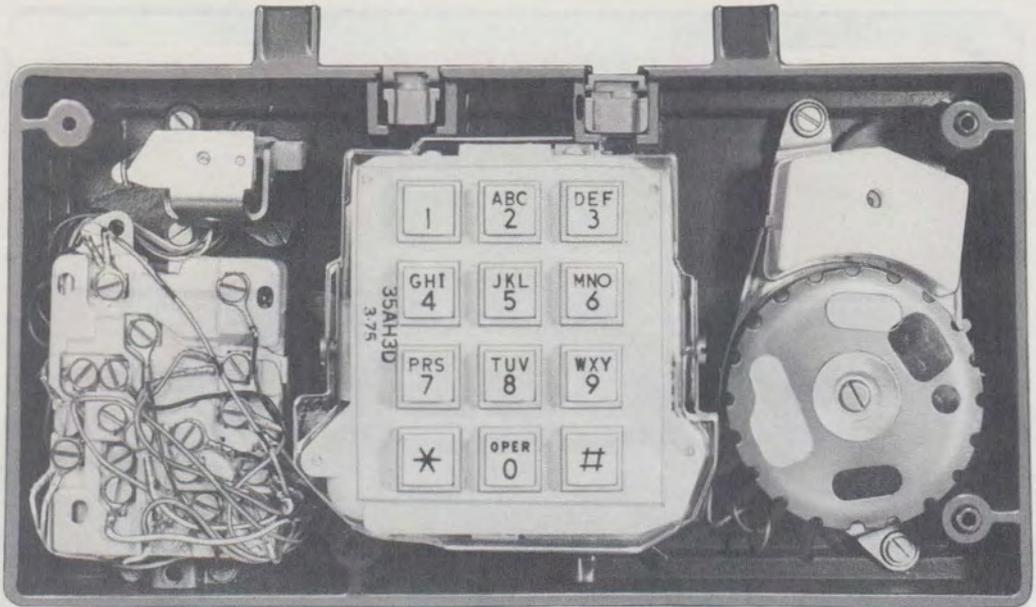

Fig. 7—2930B-Type Telephone Set, Upper Housing, and Handset Mounting Plate Removed
- (4) Remove handset cord jack and mounting cord jack by lifting out (Fig. 7).
- (5) Remove screws holding company-owned components to base and remove components.
- (6) Reassemble handset mounting plate and upper housing on lower housing.